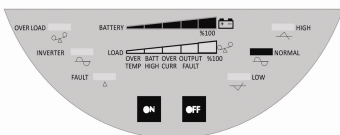
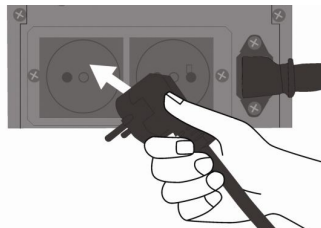

Figure 3.5
Figure 3.6
- c. If mains voltage and mains frequency are within the limits, NORMAL LED will be on constantly (Figure 3.5), if they are out of limits, NORMAL LED will not turn on (See: Starting on Battery). At this stage, you can connect your loads to output sockets (for models with patch cable) (Figure 3.6) or turn on your loads connected to UPS output (for models with contact).